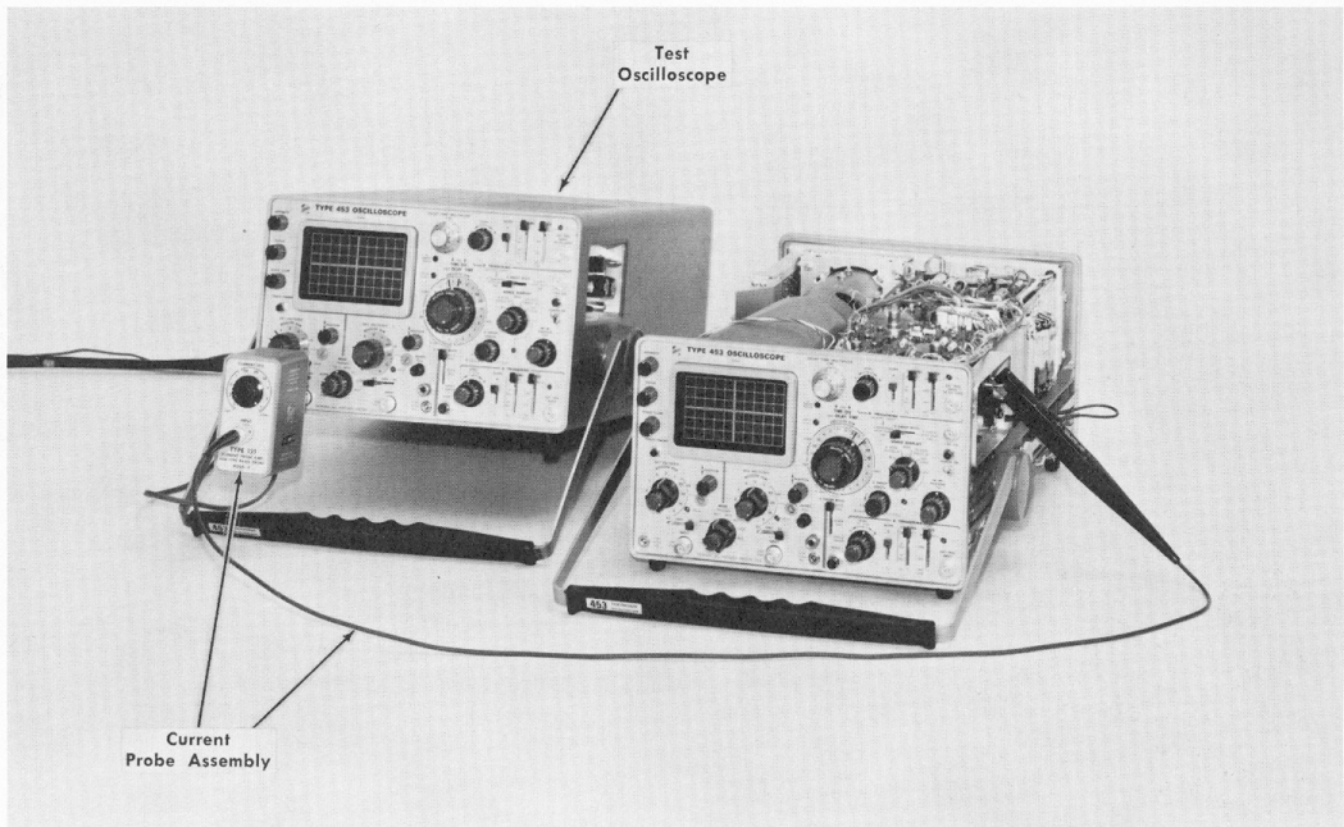

Fig. 6-61. Initial test equipment setup for step 62.
- a. Test equipment setup is shown in Fig. 6-61.